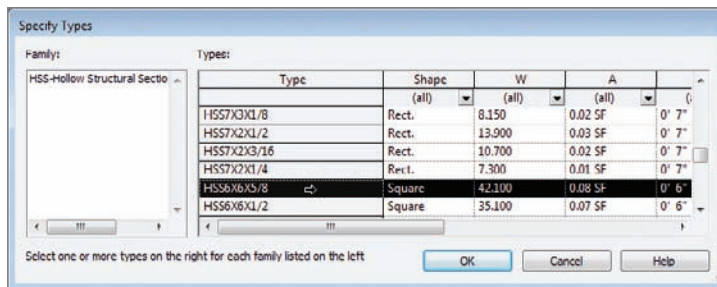

FIGURE 8.23 Select HSS-Hollow Structural Section-Column.rfa and choose the HSS6×6×5/8 type.
7. Double click on HSS-Hollow Structural Section-Column.rfa; you will see a dialog allowing you to select the type, as shown in Figure 8.23.